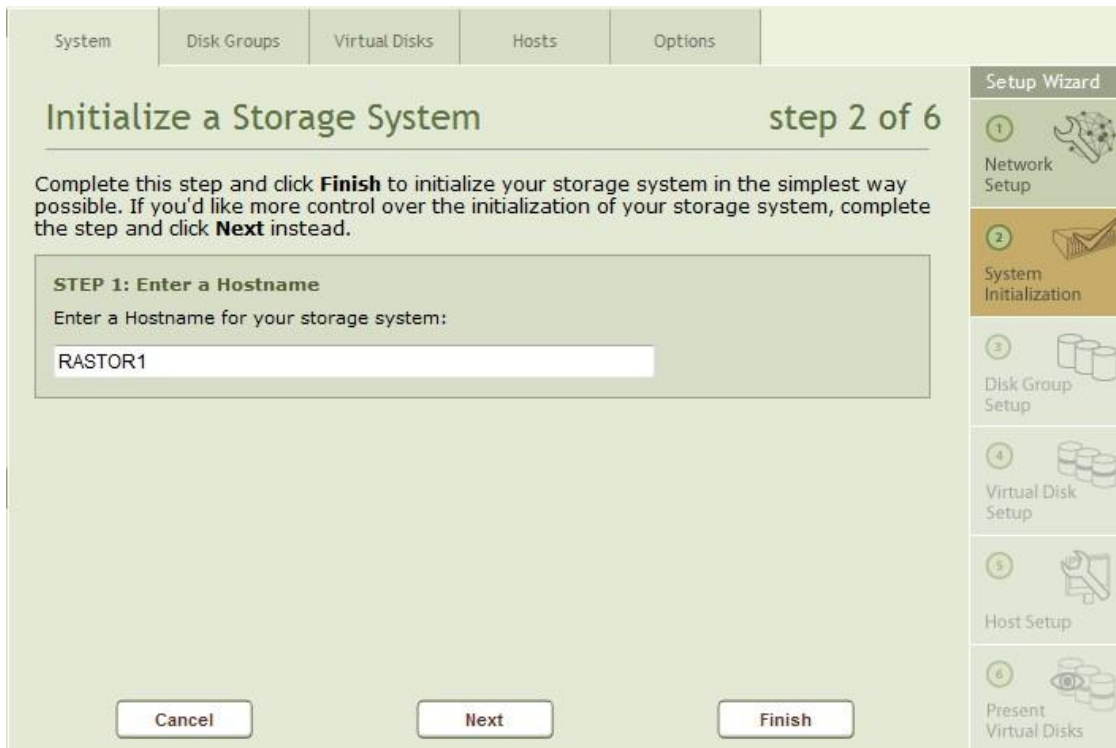
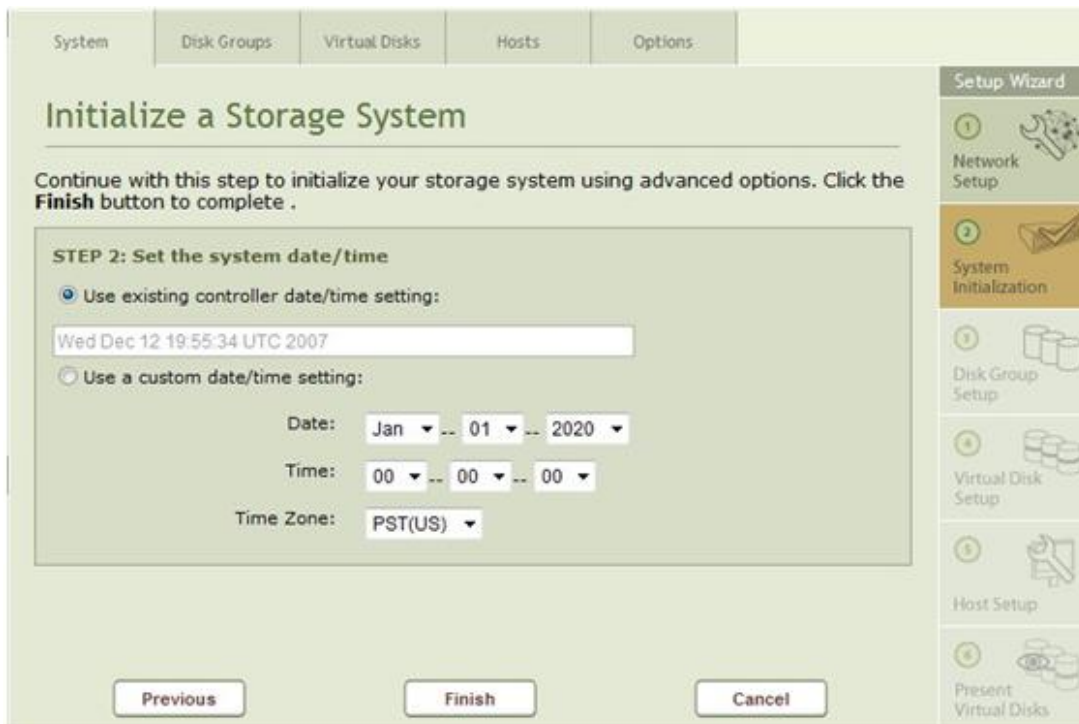

Figure 35: System Initialization--Step 1
Figure 36: System Initialization -- Step 2
Step 2 System Initialization, shown in Figure 35 and Figure 36, is used to define a system name and to set the date and time on the system. Once you have entered the system name, you can click on Finish to save these settings or click on Next to set the date and time.